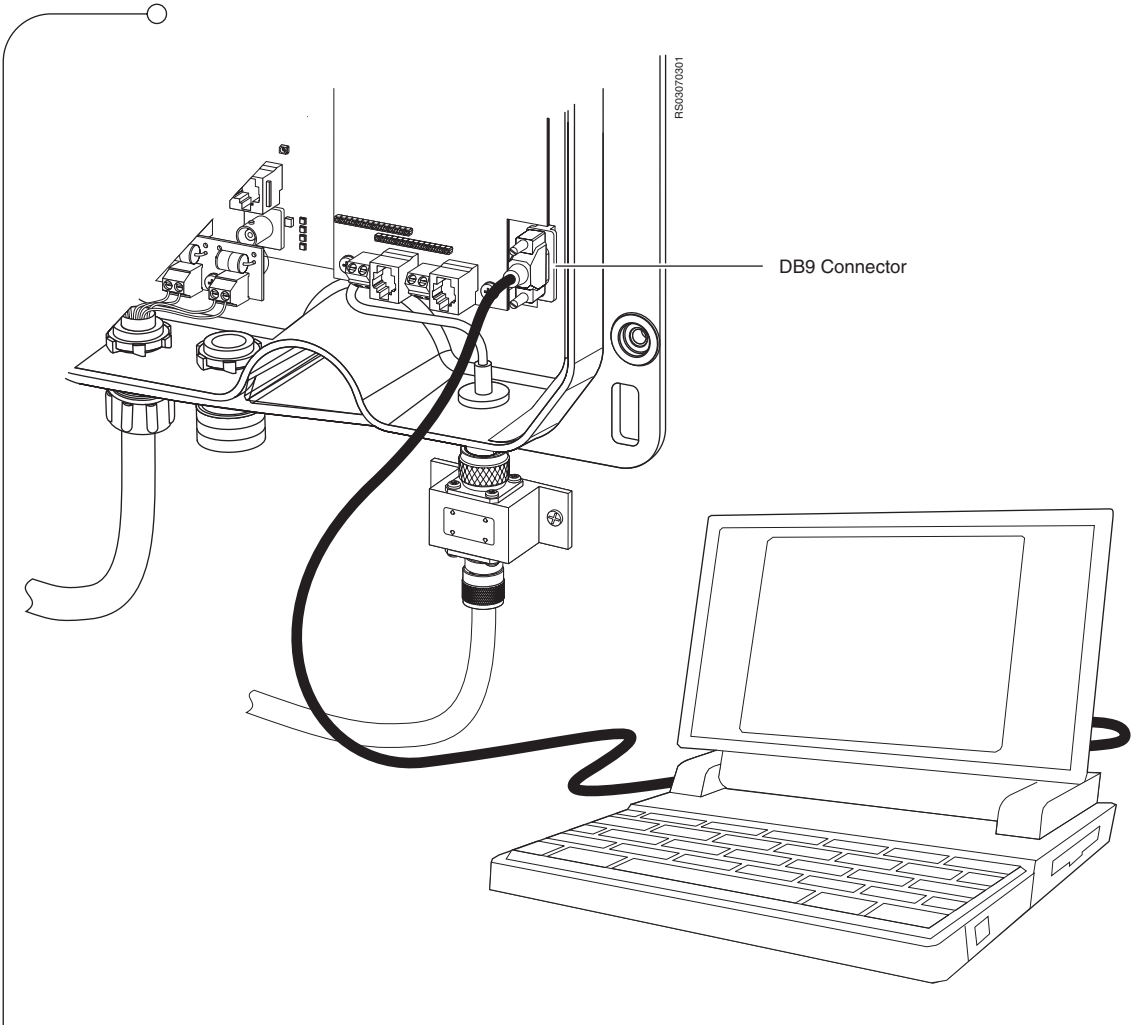

Figure 3.23 Laptop to STS Connection
1. Connect the serial cable between the laptop and the DB9 connector on the STS as shown in Figure 3.23 on page 75.